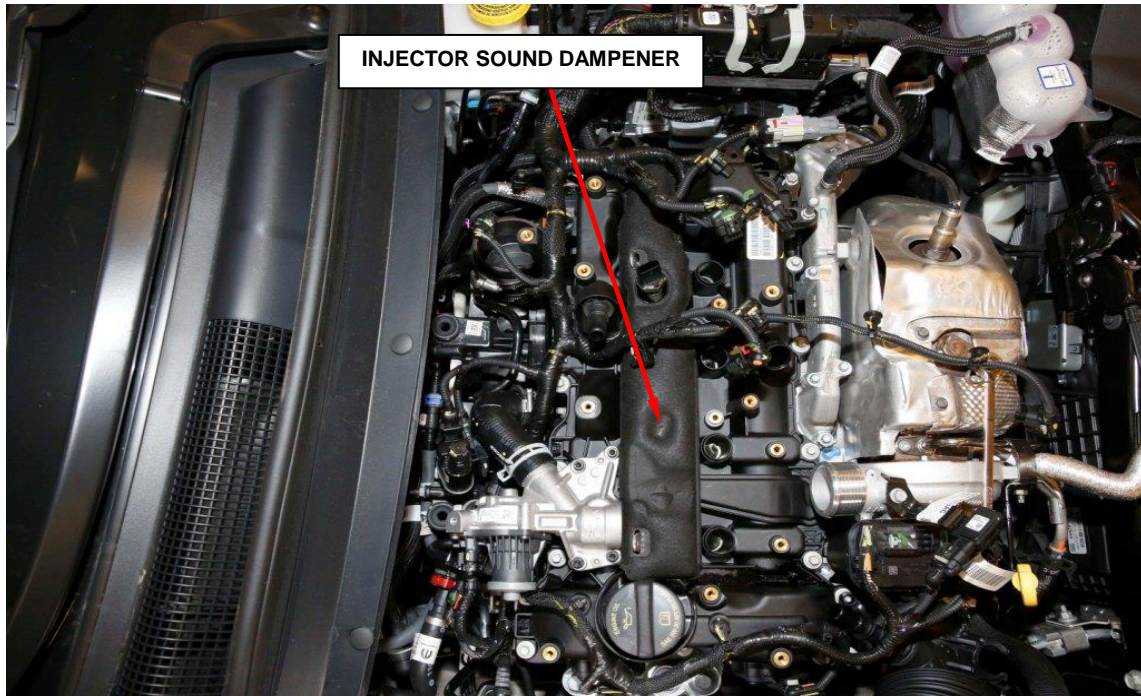

Figure 7 – Injector Sound Dampener
24. Remove the fuel injector sound dampener (Figure 7).